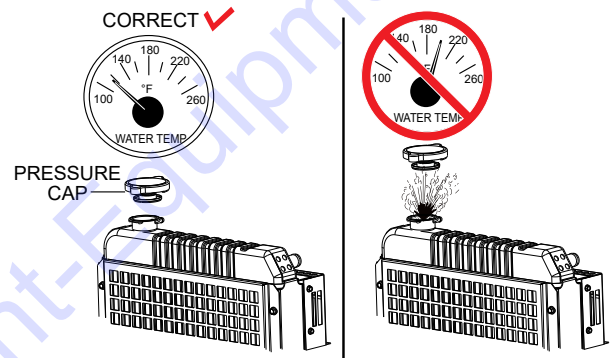

Figure 70. Radiator Pressure Cap Removal
1. Remove the radiator pressure cap (Figure 70) only if the coolant temperature is below 120°F (50°C).